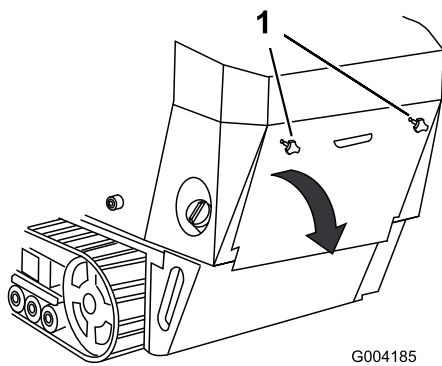

Figure 18
1. Unscrew the 2 hand knobs securing the rear access cover to the machine (Figure 18).
2. Tilt the rear access cover down and remove to access the internal components (Figure 18).